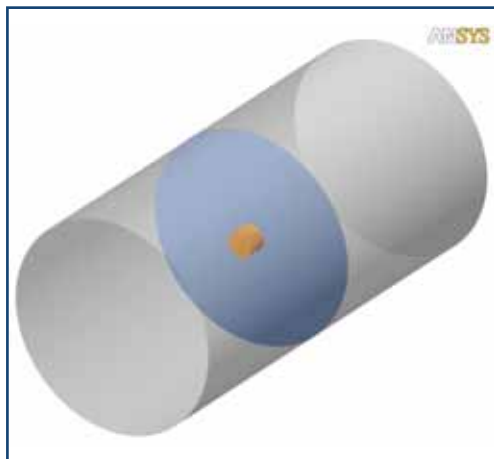

Figure 4: Avio test rig
- Plenums sensitivity: injection system performance has been compared between a large plenum simulating experimental test rig proposed by AVIO (Figure 4) and a small plenum with annular blockage on the outlet simulating